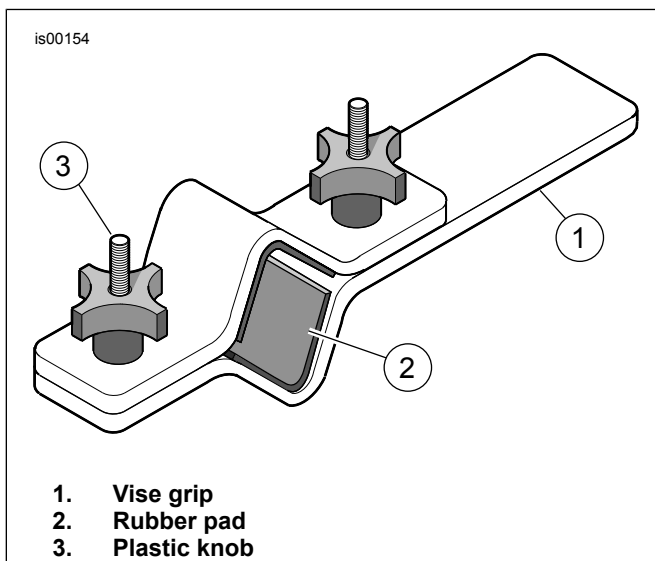
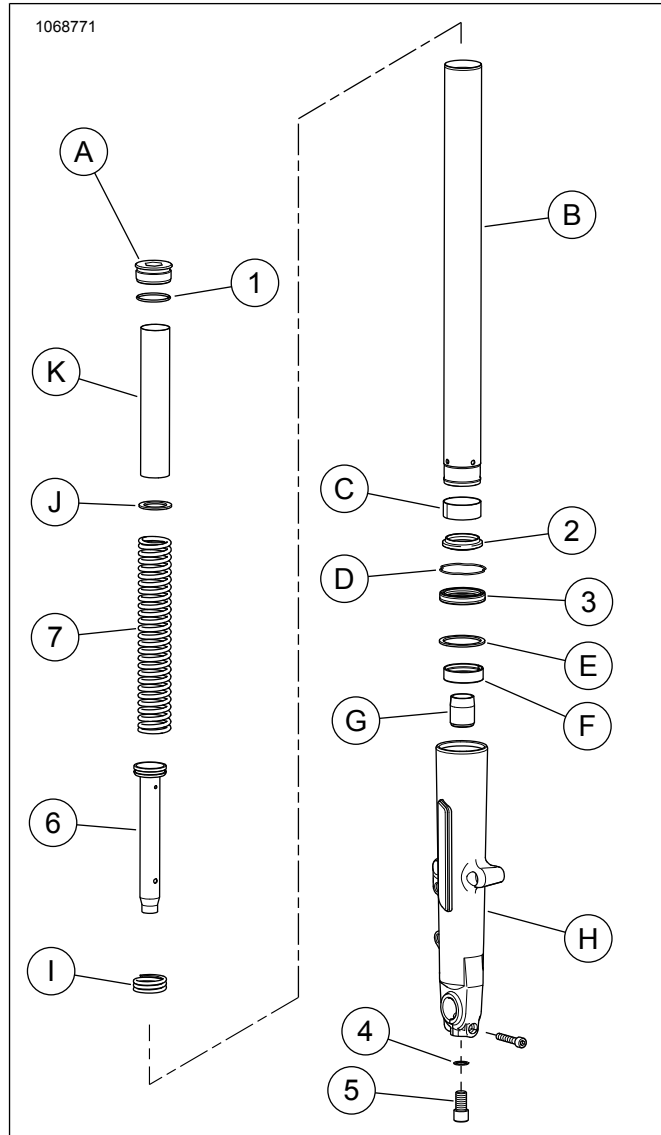

Figure 1. Fork Tube Holder (HD-41177)
Figure 4. Service Parts: Cartridge Front Fork Kit
See Figure 4 and Table 1.
1. See Figure 1. Install fork in Fork Tube Holder (HD-41177) as follows:
- a. Clamp end of tool (1) in vise in a horizontal position.
- b. See Figure 4. With the fork bolt (A) upward, clamp fork tube (B), between rubber pads on inboard side of tool. Tighten knobs until fork tube is securely held.
1. See Figure 4. Make sure that piston ring is installed on the damper tube with the cut-outs down. Place rebound spring (I) on **new** damper tube from kit (6). Insert damper tube into fork tube (B).
2. Insert spring (7) and spring collar (K) into fork tube, with dense section of coils toward damper tube. Push bottom of damper tube through the opening at the bottom end of the fork tube. Place oil lock (G) over end of damper tube.
3. Apply Loctite 565 Thread Sealant to screw (5). Position fork tube and damper tube in fork slider (H). Hold the assembly in place by exerting pressure on the spring and spring collar. Install screw (5) with copper washer (4) from kit.
- c. See Figure 4. Slide the retaining clip (D) down the fork tube until it contacts the fork oil seal. Install retaining clip in the fork slider groove. Do not expand or stretch retaining clip to install on fork tube or clip may be damaged.